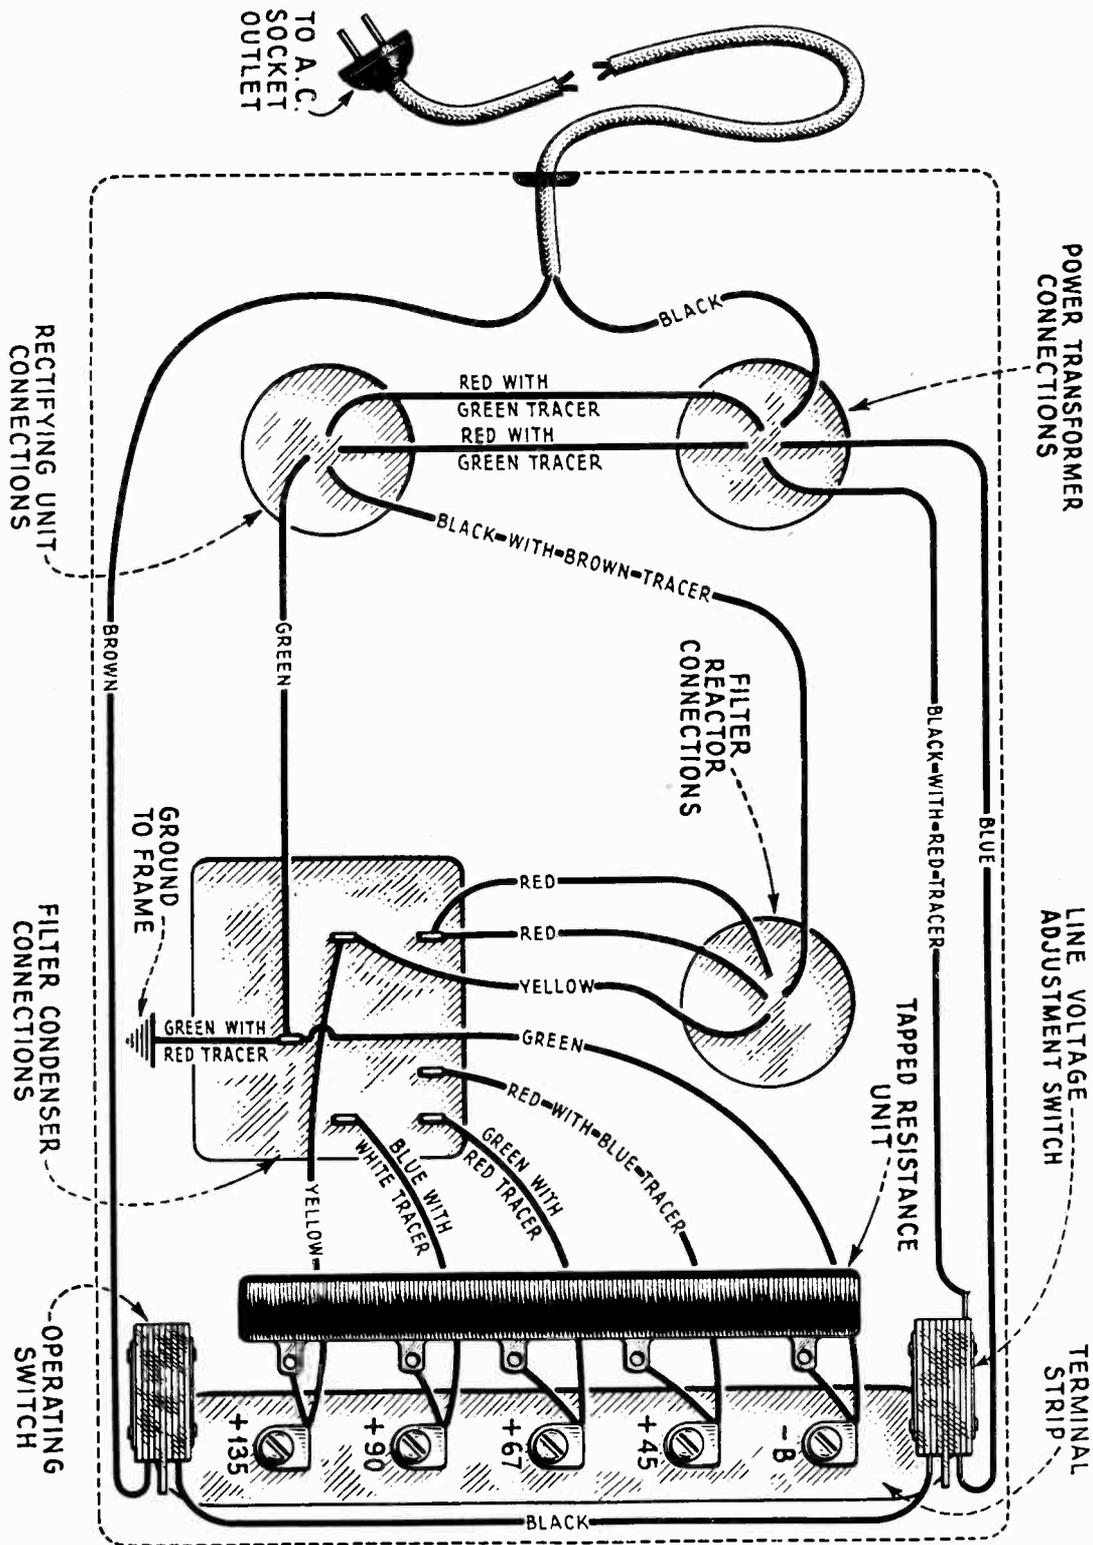

Figure 3—Sub-chassis view of the RCA B-Eliminator showing color scheme of wiring and connections
- (d) Resolder the connections that were removed. These are shown in Figure 3.